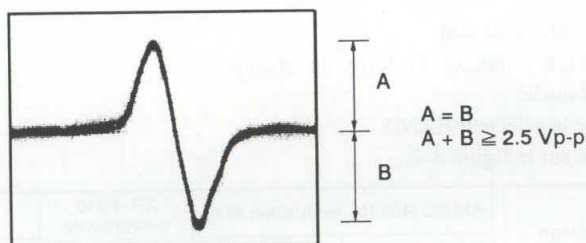

Fig. 8-14
3. While watching the oscilloscope screen, press the PROGRAM key and observe the wave form in Fig. 8-14 for a moment. Verify that the amplitude is at least 2.5 Vp-p and that the positive and negative amplitude are about equal. Since the wave form is only output for a moment when the PROGRAM key is pressed, press this key over and over until you have checked the wave form.